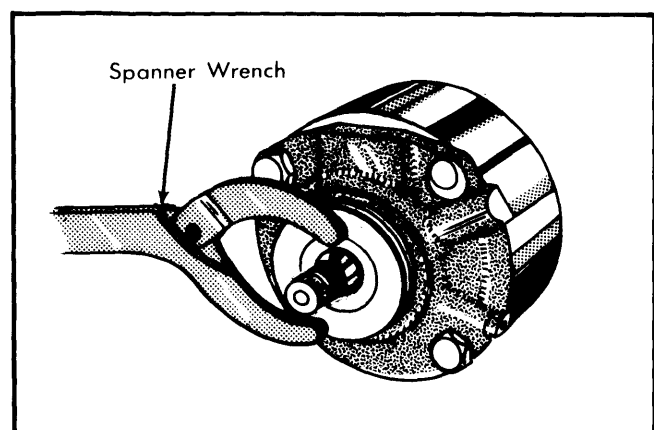

Fig. 6 Removing Bearing Insert From Bearing Cap
8) Remove bearing insert from bearing cap, using spanner wrench (Fig. 6), then remove seal and "O" rings from worm gear.